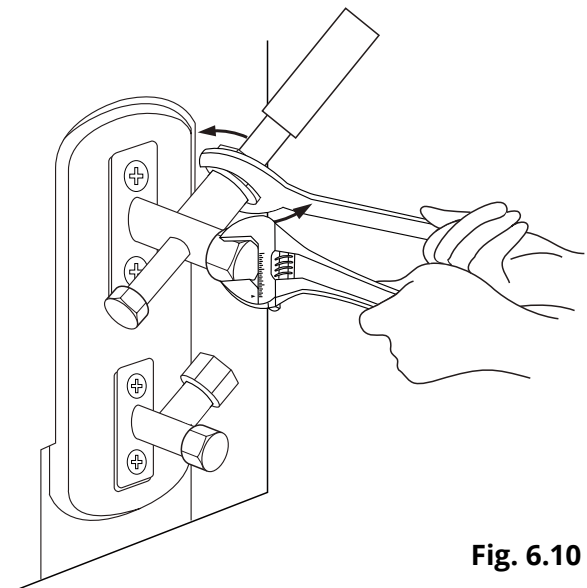

Fig. 6.10
4. Using an adjustable wrench, grip the body of the valve. Do not grip the nut that seals the service valve. (See **Fig. 6.10**)
Torque from tightening the flare nut can snap off other parts of valve. See **Fig. 6.10**.